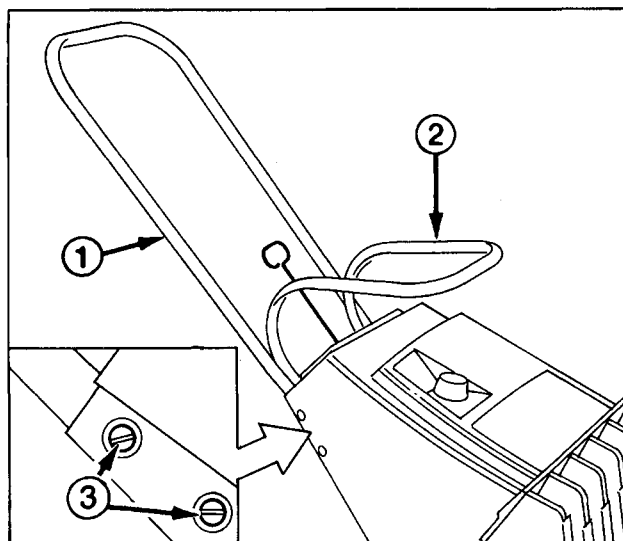
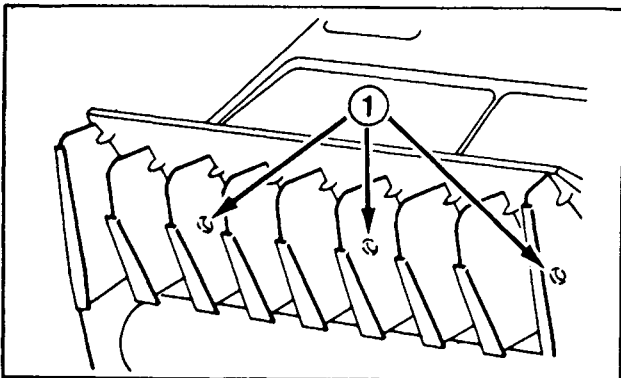

Fig. 2
Fig. 11
INSTALL UPPER HANDLE (Fig. 2)
REPLACING SPARK PLUG (Fig. 11, 12 & 13)
1. **REMOVE SHROUD** — Remove three screws at front housing (Fig. 11) and two self-tapping screws holding both sides of upper shroud (Fig. 2). Remove fuel tank cap and lift off shroud. Reinstall fuel tank cap.